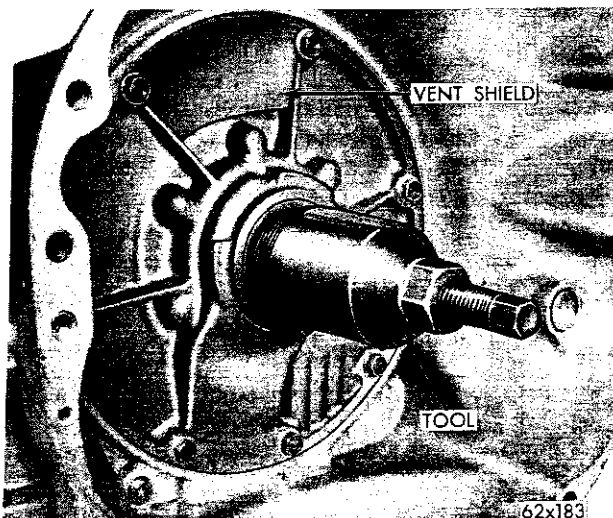

Fig. 47—Removing Front Pump Oil Seal
- (1) Screw seal remover, Tool C-3861 into the seal (Fig. 47). Tighten the screw portion of tool to withdraw the seal.
- (2) To install a new seal, place the seal in the